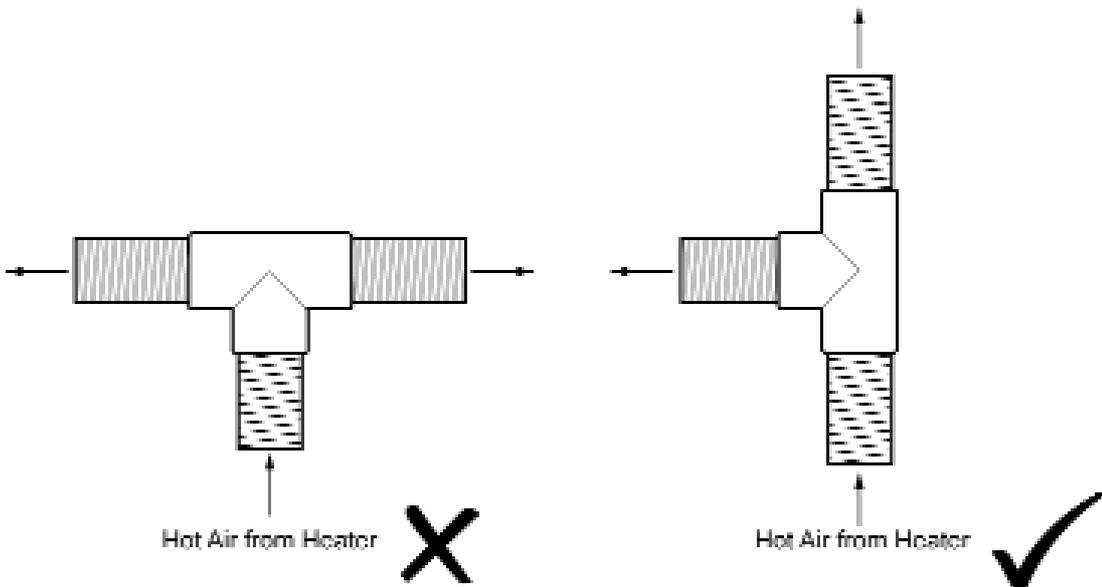

Fig. 22
**Important:** At least one hot air outlet vent is to be permanently open. The hot air duct should not be fed into the centre branch of a Tee fitting as per Fig. 22.